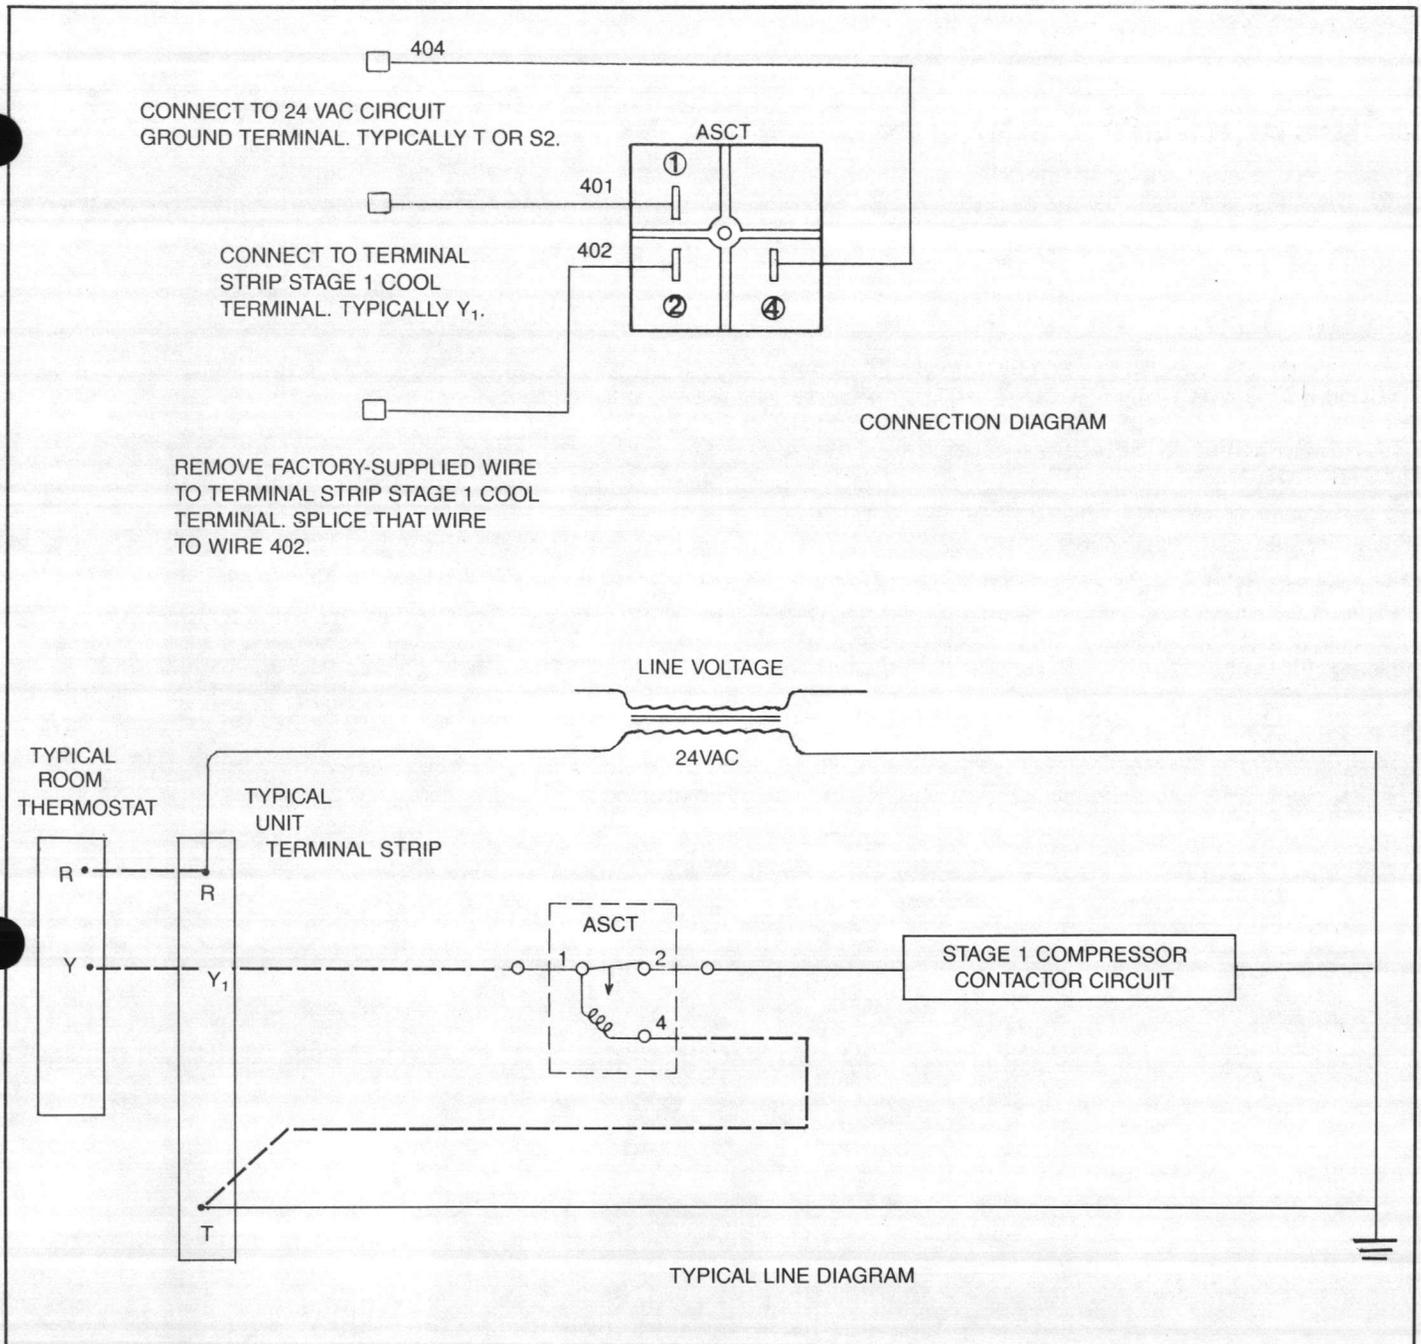

Figure 2 - Typical Antishortcycle Timer Connection and Line Diagram
3. Determine the correct wiring connections for wires 401, 402, and 404. Refer to Figure 2. Terminals 1 and 2 are wired in series with the stage 1 compressor contactor circuit and terminal 4 is connected to the ground side of the 24VAC control circuit.
5. Connect the three wires. Wires 404 and 401 go to the terminal strip. Wire 402 splices to the wire indicated in Figure 2.